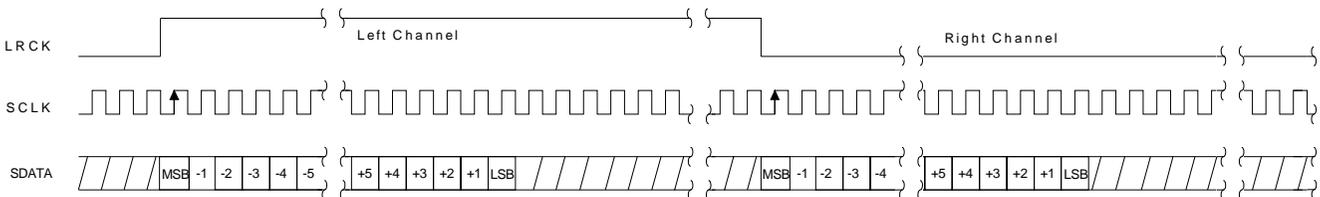

Figure 3 Standard Left-Justified Format
The Left-Justified (LJ) format probably got its name from the relationship of the audio data and the Left/Right Clock. Refer to Figure 3 and notice that the MSB of the audio word is coincident with the leading transitions in the Left/Right Clock, or left-justified within the frame. One of the advantages of this format is that it is word-length independent and works properly with audio data words of 16 to 32 bits, assuming there is a sufficient number of serial clocks per Left/Right clock cycle.